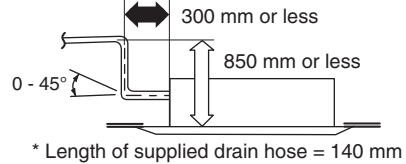

Fig. 3-8
- In cases where it is necessary to raise the height of the drain piping, the drain piping can be raised to a maximum height of 850 mm above the bottom surface of the ceiling. Under no conditions attempt to raise it higher than 850 mm above the bottom surface of the ceiling. Doing so will result in water leakage. (Fig. 3-8)